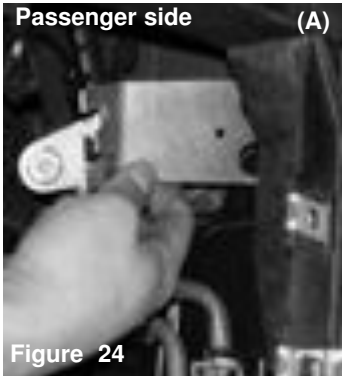

Figure 24
Looking down in front of the passenger side you'll notice a silver metal plate with three prongs. These clips are holding the plastic resonator box in place. Use a flathead screwdriver to dislodge the resonator box from the bracket (A). Bracket is shown in figure 24 below. Now, pull the resonator box out of the bumper area (B).